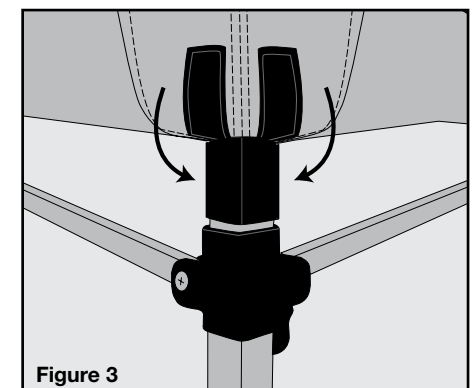

Figure 3
3. Now secure the canopy to the gazebo by attaching the velcro points at the top of the legs as indicated in Figure 3.